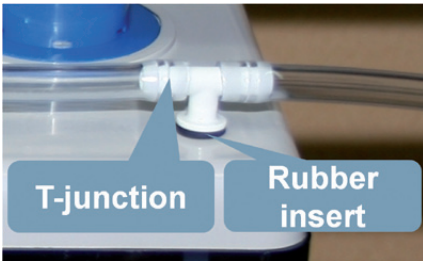

Figure 8: T-junction and rubber insert
2. Insert the black rubber part into the service hole of the cell lid (refer to Figure 8).